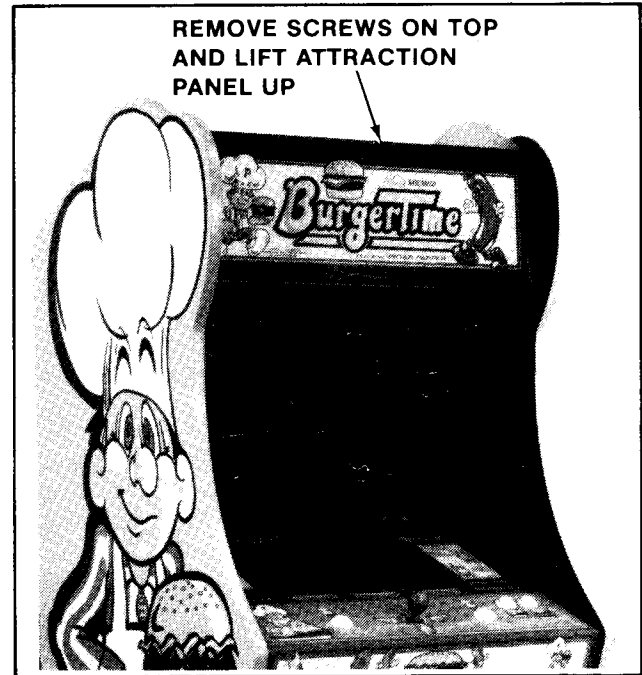

Figure 4-11 Opening the Attraction Panel — Upright
1. **UPRIGHT MODEL:** See Figure 4-11.